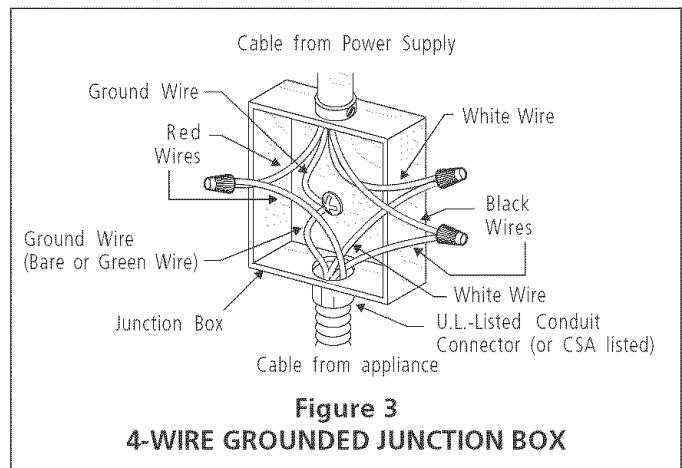

Figure 3
! WARNING Frame grounded through the neutral. If used in a mobile home, new branch circuit (1996 NEC) recreational vehicles or where local codes do not permit grounding through neutral see figure 3.
2. If used in mobile homes or if local codes DO NOT permit connection of the frame grounding conductor to the neutral (white) wire, separate the white and bare copper ground wires that extend out of the end of the supply cable of the appliance. Connect the white wire from supply cable to the neutral white wire in the junction box. Connect the black and red wires from the supply cable to the matching color wires in the junction box. The bare wire must now be used to ground the appliance in accordance with local electrical codes. Connect the bare copper ground wire to the grounded lead in the service panel. DO NOT ground to a gas supply pipe. DO NOT connect to electrical power supply until appliance is permanently grounded. Connect the ground wire before turning on the power (figure 3).